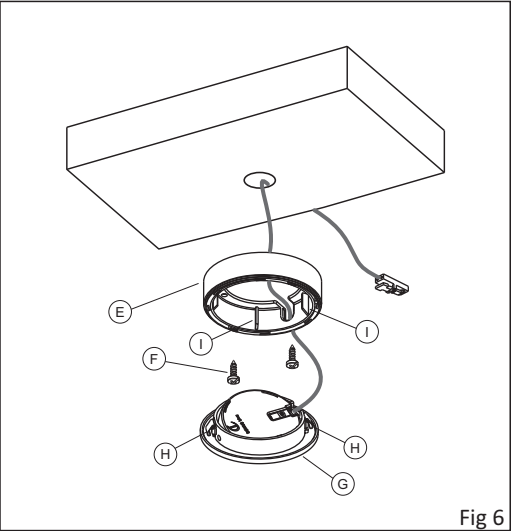

Fig 6
- Secure the plastic bracket (E) to the installation surface with the included screws (F); insert the light (G) into the plastic support, applying light pressure until it is completely fitted as illustrated in figure 6 orienting it in the desired position and making sure that the springs (H) are not located at the spacers (I).